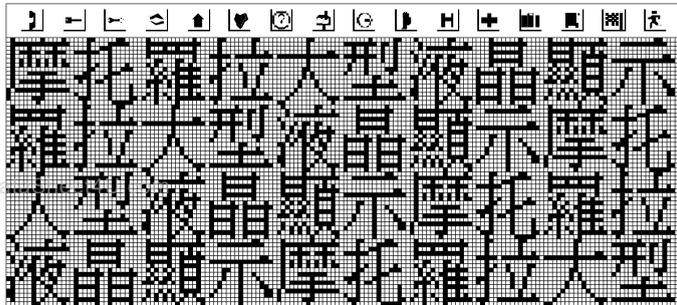
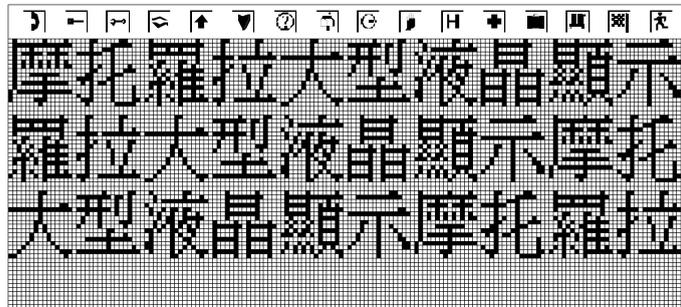

Figure 8a: Content in GDDRAM
Figure 8b: 3-line Chinese character mode
This command is used to select the Graphic display mode with different Mux from 2 Mux to 65 Mux or the Chinese character display mode with different character line from 1 line to 3 lines. Figure 8a & 8b in the section "Display Output Description" show the 65 Mux Graphic display mode and 3-line Chinese character display mode respectively.
1. Row(0) - Row(Mux ratio-2) of GDDRAM mapped to COM(first display row location) - COM( first display row location+Mux ratio-2). Example is illustrated in figure 8b, the first display row location is COM0 and the Mux ratio is 53, then Row0 of GDDRAM will be mapped to COM0, Row1 through Row 51 of GDDRAM will be mapped to COM1 to COM51.
This is an example of output pattern on the LCD panel. Figure 8a shows the content in GDDRAM and Figure 8b - 8h illustrate the output patterns on the LCD display with a sequence of commands:
- 1) Set 3-line Chinese character display mode shown in Figure 8b,